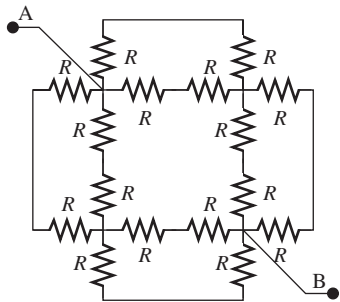

FIGURE P3.9 Circuit for Problem 3.9.
- 3.9 (H) Find R_{AB} in Figure P3.9: